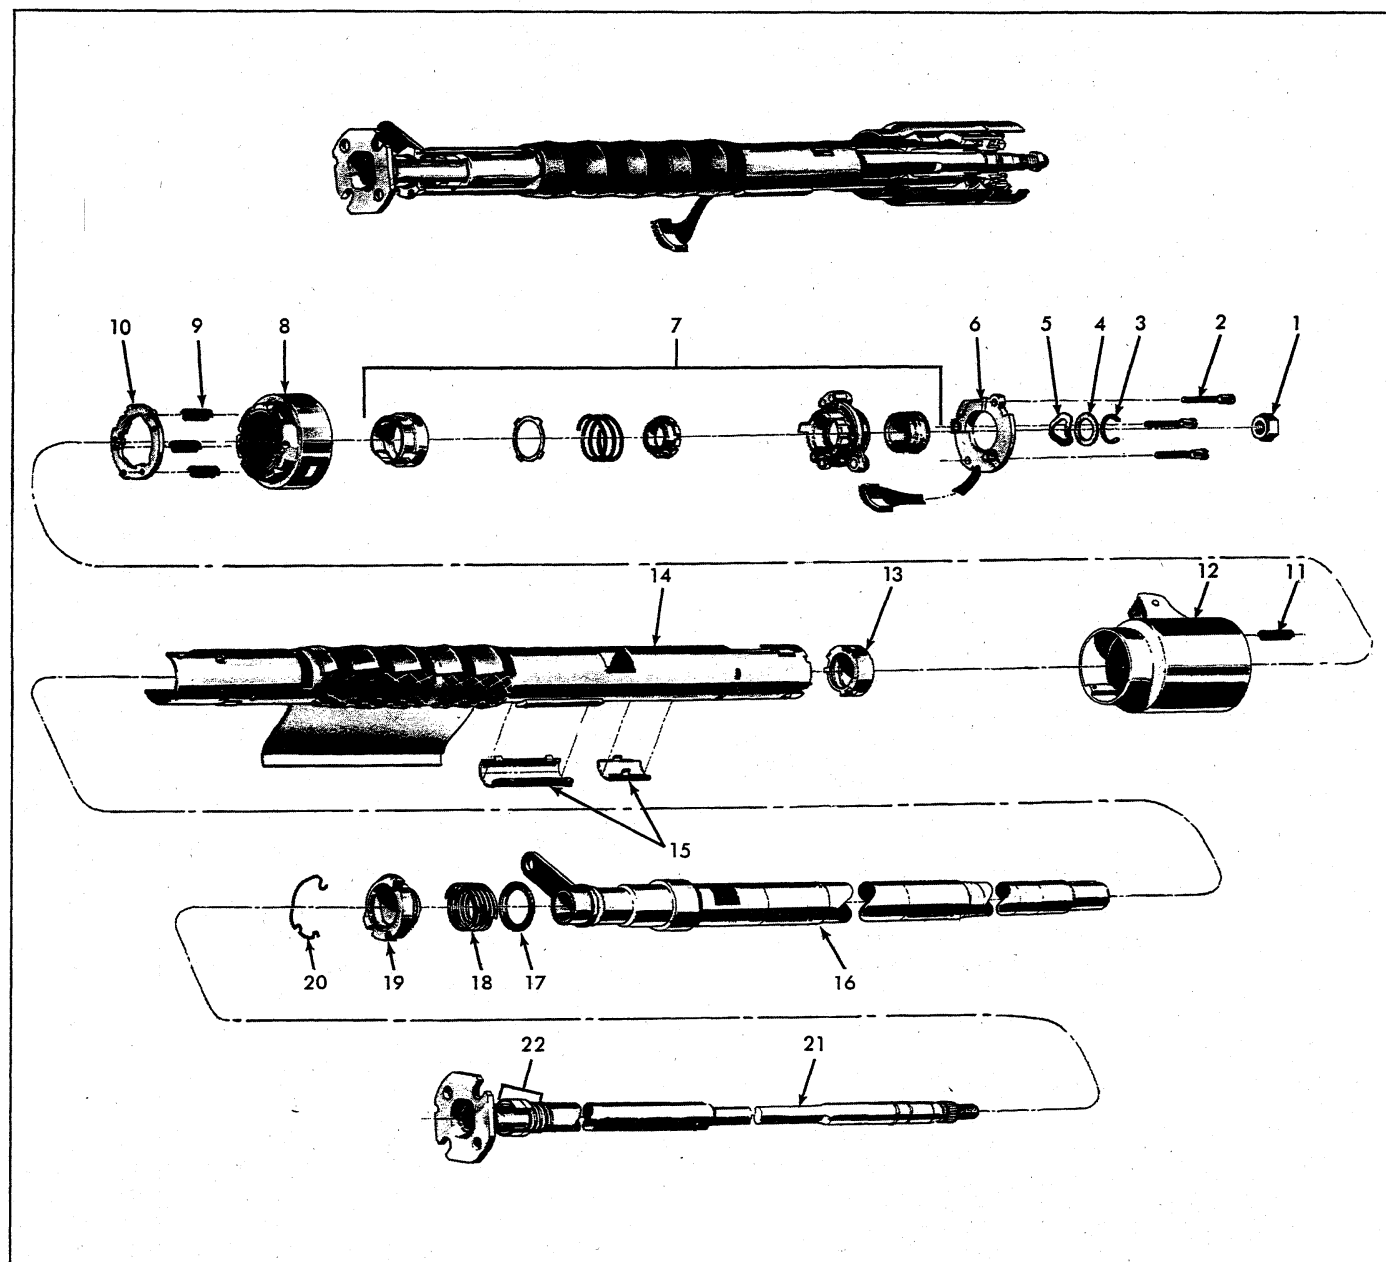

Fig. 32—Column Mounted Powerglide Lever or Floor Shift Column—Exploded View
Disassembly—Column Mounted Powerglide Lever or Floor Shift Column (Fig. 32)
18. Remove bearing adapter with bearing, and shift tube spring. On automatic columns, remove spring thrust washer (fig. 32).
Assembly—Column Mounted Powerglide Lever or Floor Shift Column (Fig. 32)